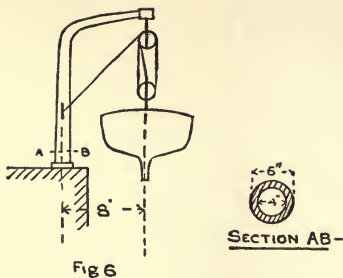

Fig 6
6. The arrangement of a ship's davit is shown in Fig. 6. The vertical load carried by the davit is 2 tons. Calculate the greatest compression and tension stresses set up at the cross-section  $AB$ .